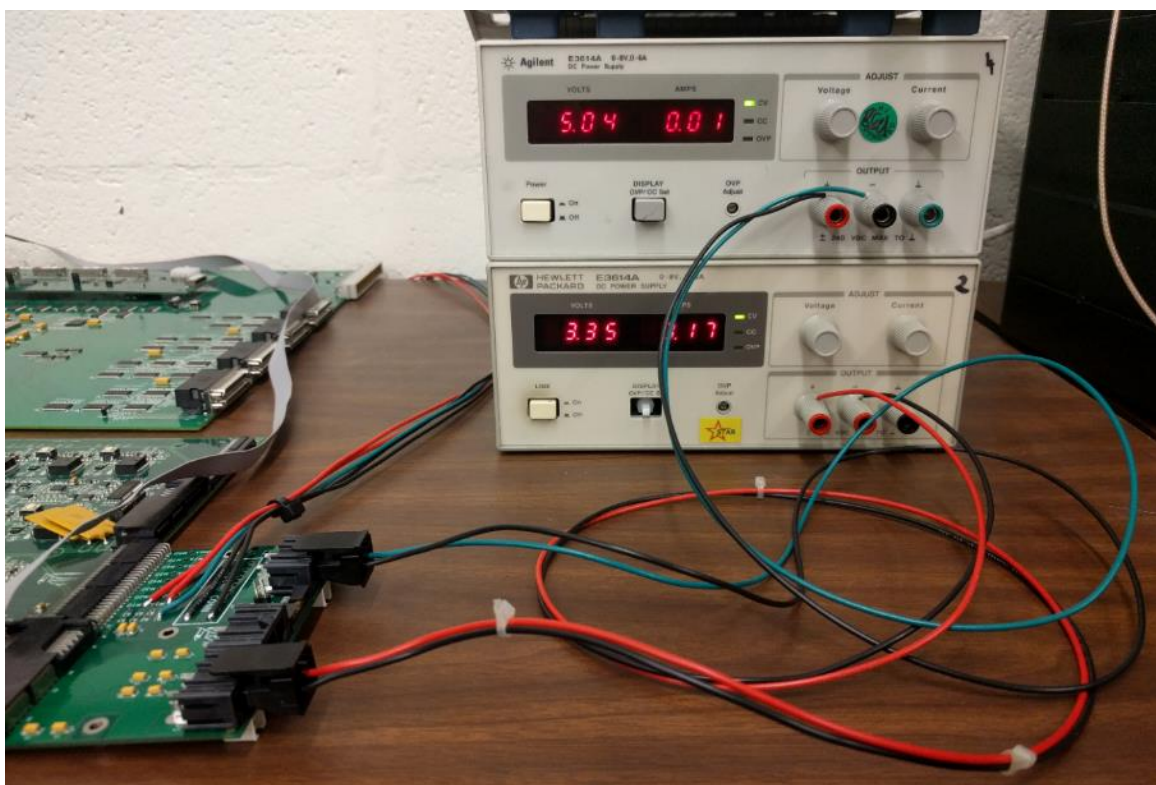

Figure 8: Power supply connections to the breakout board - No VME crate configuration (single module testing only)
- 5) Connect each power cable to the corresponding power supply as shown in Figure 8. It is not required that the "+" side of the power supply for the -5V is shorted to the "-" side of the power supply for the 3.3V, since this connection is established by the breakout board.